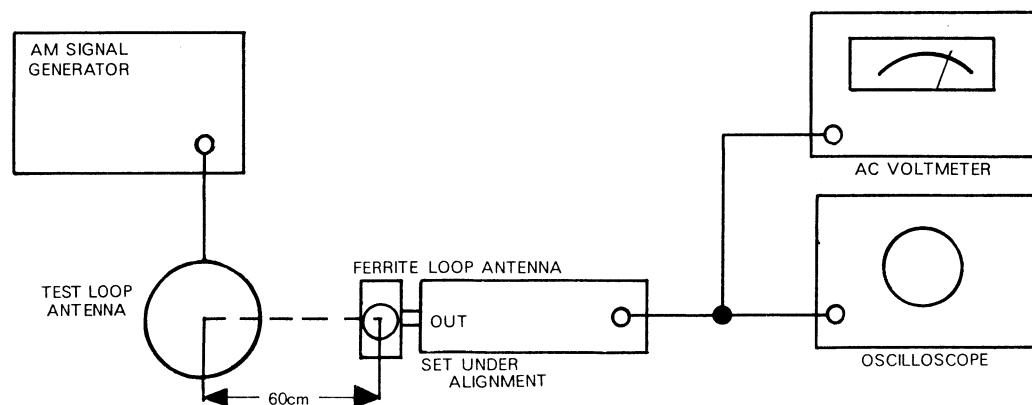

Fig.1-3
- Set up the test equipment as Fig. 1-3.